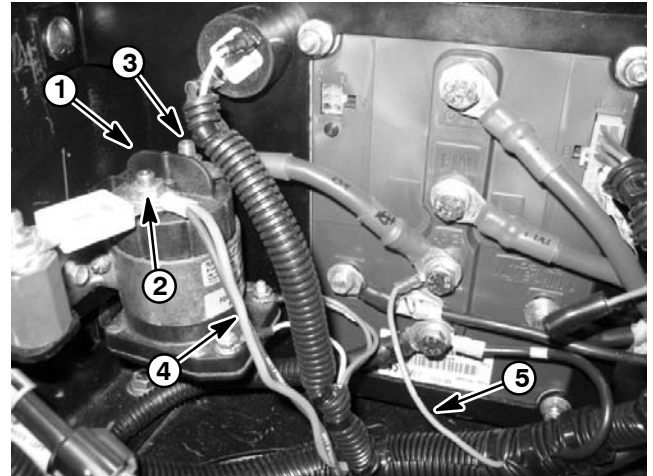

Figure 37
The wiring harness for the Workman includes three (3) fusible links for circuit protection (Fig. 37).